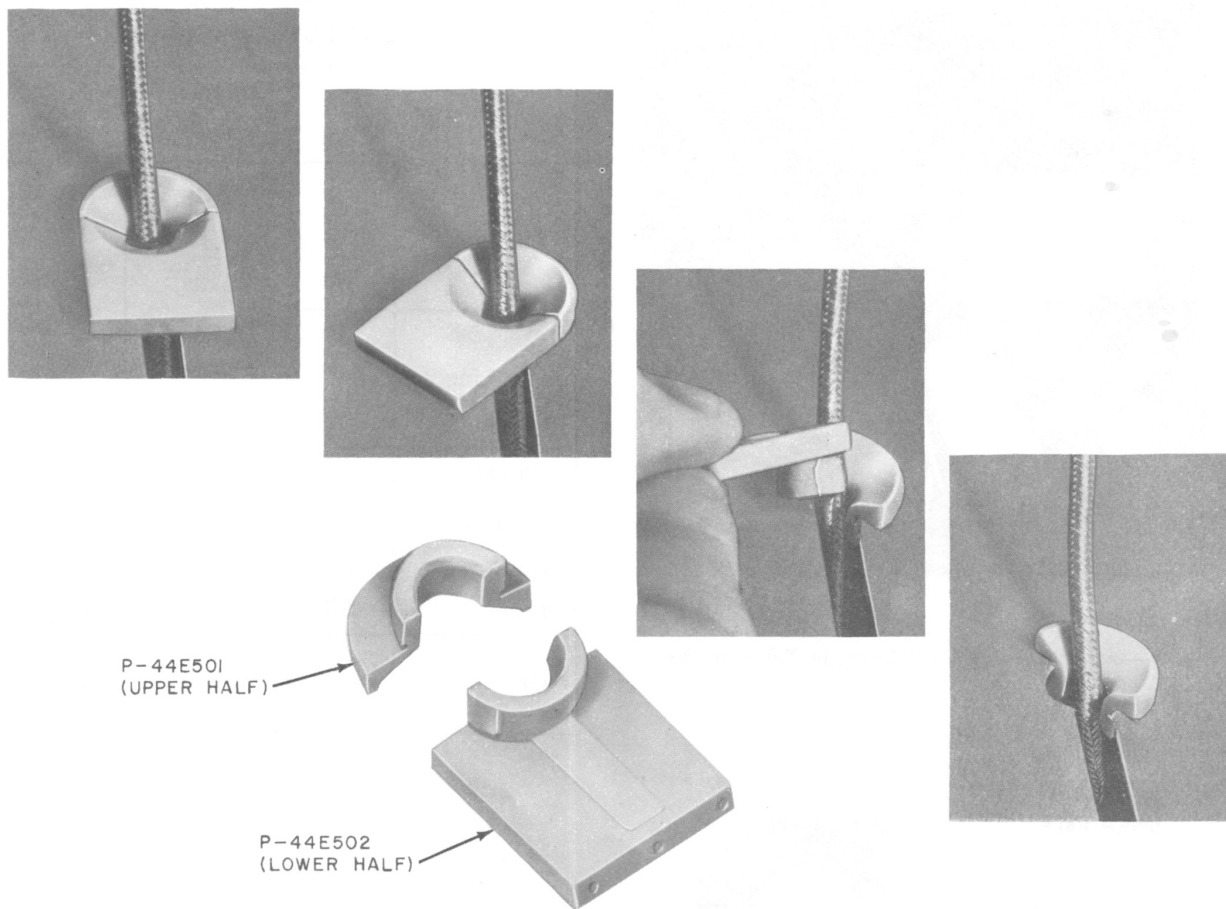

Fig. 6—Removal of Handset Cord Grommet
- (1) Grasp mat retainer frame at top, lift upward and out to release frame from panel of set.
- (2) Remove handset from hook of set.
- (3) Pull out handset cord to allow working slack.
- (4) Remove mat from face of panel.
- (5) Remove grommet from mat as shown in Fig. 6.
- (6) Install grommet in new mat by reversing procedure used in removal.
- (7) Position mat on panel and secure using the mat retainer frame.